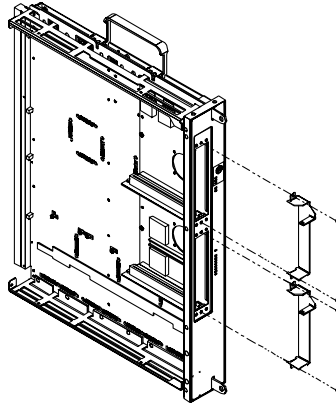

FIGURE 10 PCI Front Bracket Installation
4. Install the PCI front brackets as shown in FIGURE 10.